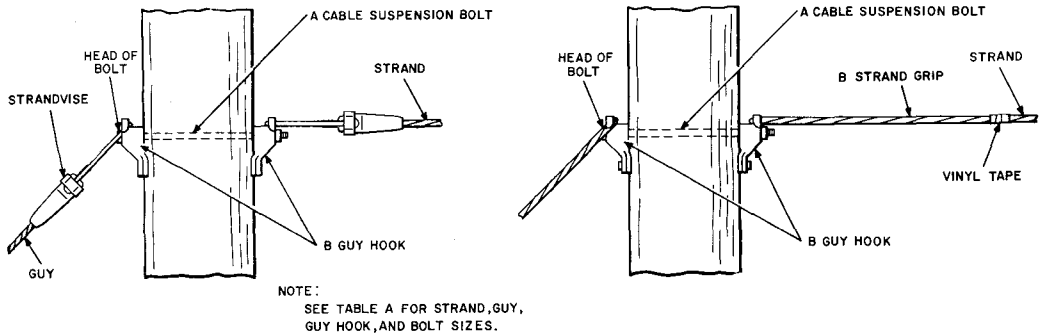

Fig. 1—Installed B Guy Hooks and Associated Hardware
- 1.06** Only A cable suspension bolts should be used in conjunction with guy hooks in deadending operations. *The head of this bolt should always be placed against the guy hook on the anchor side* (See Fig. 1). B cable suspension bolts should not be used in this operation.
2.06 Installed B guy hooks and associated hardware are shown in Fig. 1. Refer to Table A for the size of suspension strand and guy that may be used.